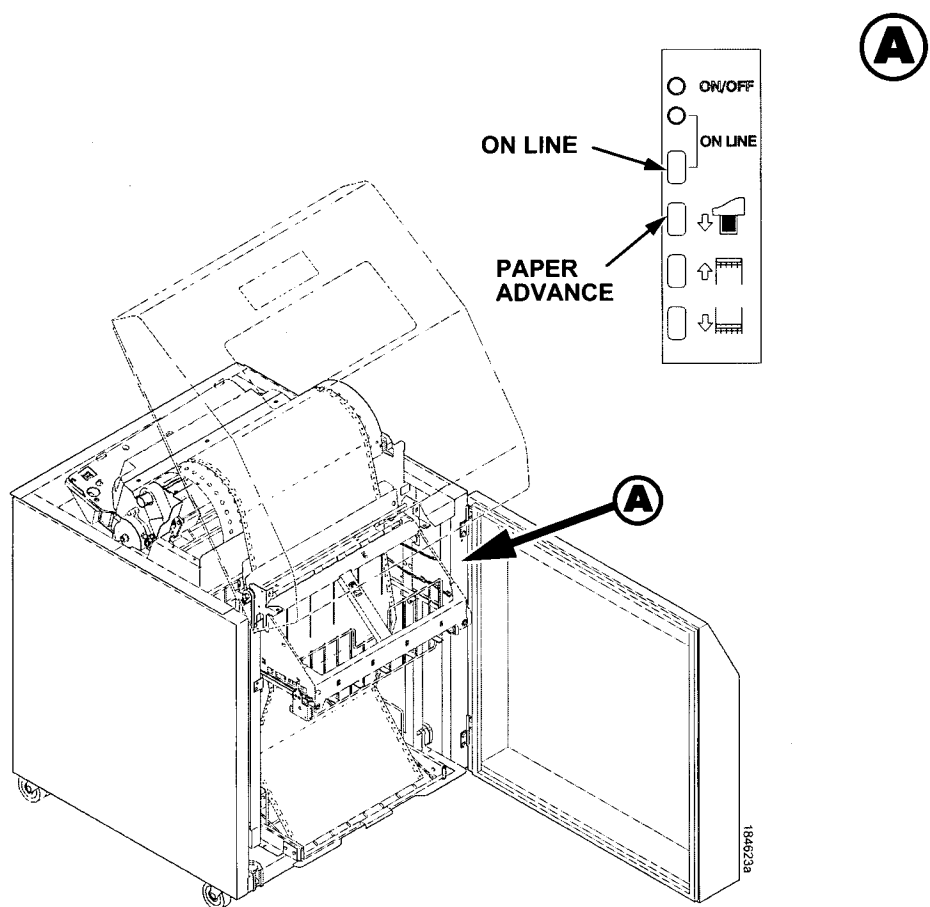

Figure 75. Stacking Paper on the Wire Paper Tent
- 1. Press the **PAPER ADVANCE** key and hand feed the paper down into the paper throat of the stacker. Continue to advance the paper until it reaches the paper tent (if installed) and feed three to five extra sheets into the stacker. Make sure the paper passes through the paper throat of the stacker. (Figure 75.)
- 2. Stack the extra pages on top of the wire paper tent (if installed), making sure the paper bends with the natural fold. (Figure 75.)